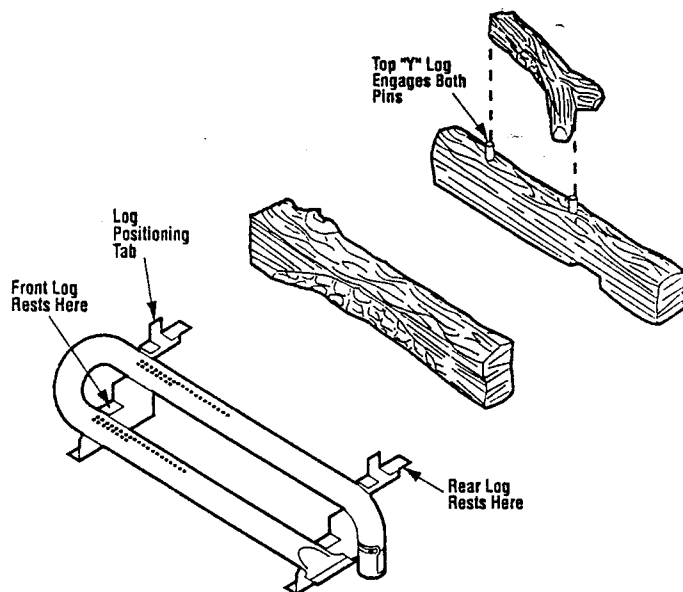

*Figure 30*
To derate this unit, order and install the appropriate high altitude orifice kit per the following chart. Remove two (2) Phillips head screws securing the burner brackets to the base of the appliance firebox. Lift and remove the burner. Remove the orifice (*Figure 30*) and replace with the appropriate one from the kit. Refer to the following chart. Be sure to attach the conversion sticker provided with the kit to the rating plate on the appliance.
**Step 6.** Remove and replace the burner orifice (refer to Figure 30). Use #39 for natural and #54 for propane.